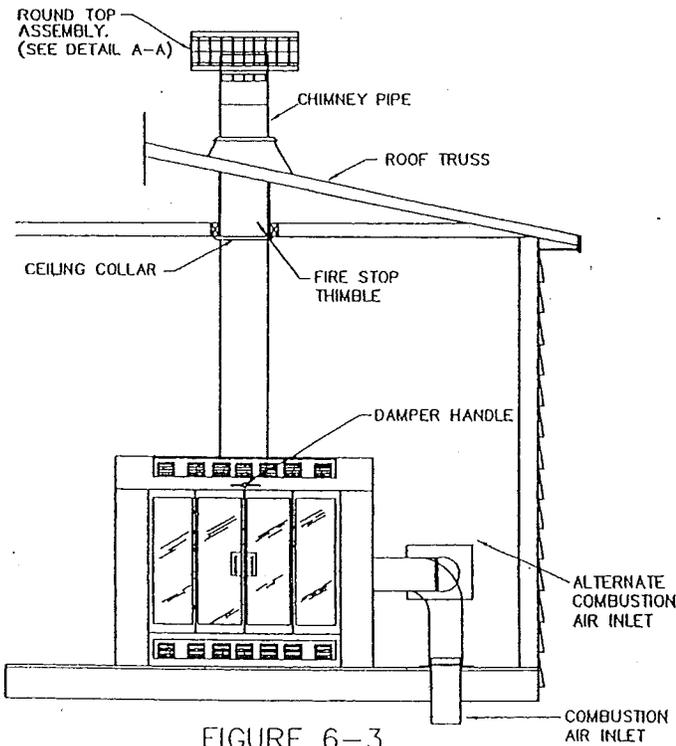

FIGURE 6-3
**6-5.1** If your home is equipped with a built-in fireplace, it will be necessary to complete the installation of the round top assembly, rain cap, spark arrester, and chimney pipe. See Figure 6-3.